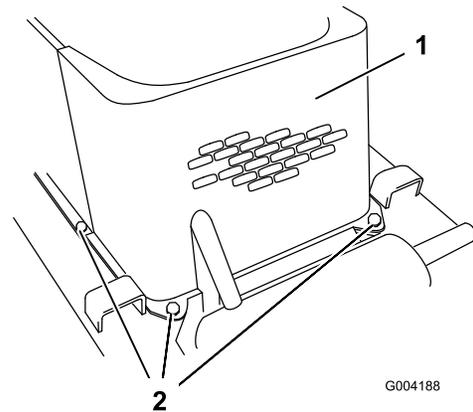

Figure 30
5. Remove the 4 bolts securing the front screen to the traction-unit frame (Figure 30).